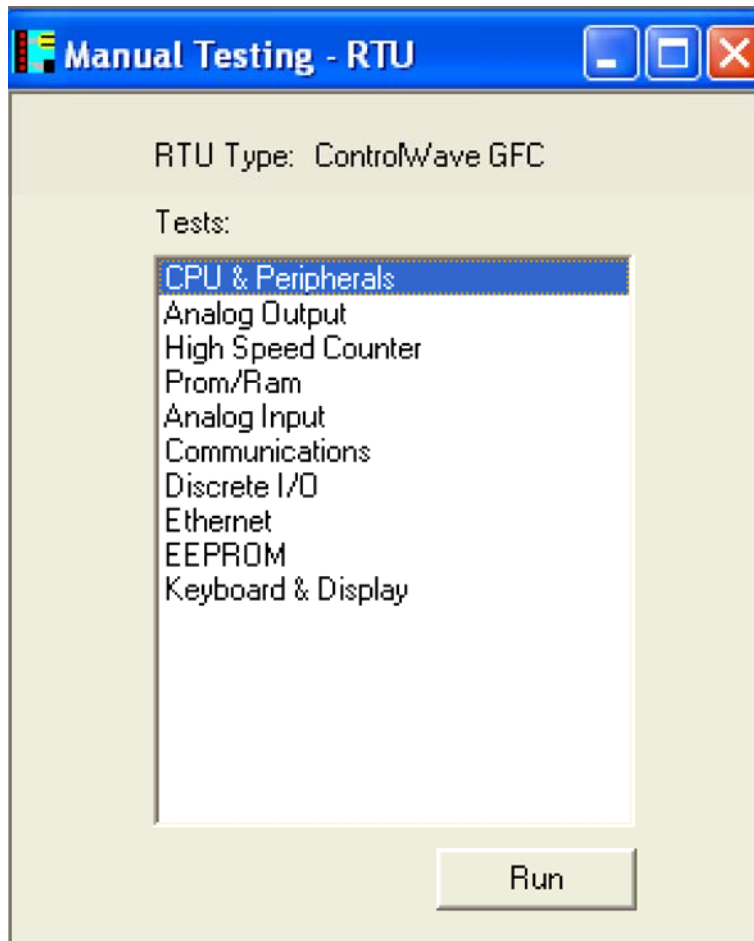

Figure 3-5 - WINDIAG Main Diagnostics Menu
3. Once WINDIAG has been entered, the Main Diagnostics Menu of Figure 3-5 will appear.
ControlWave GFC-CL electronics can be tested using the WINDIAG program. From WINDIAG's Main Diagnostics Menu (see Figure 3-5) the following diagnostic tests can be performed: